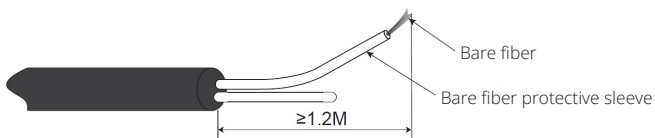

Figure 1-24: Strip the branching cable
- 3 Strip the branching cable to a suitable length of ≥ 4 ft. (1.2 m) (Figure 1-24).